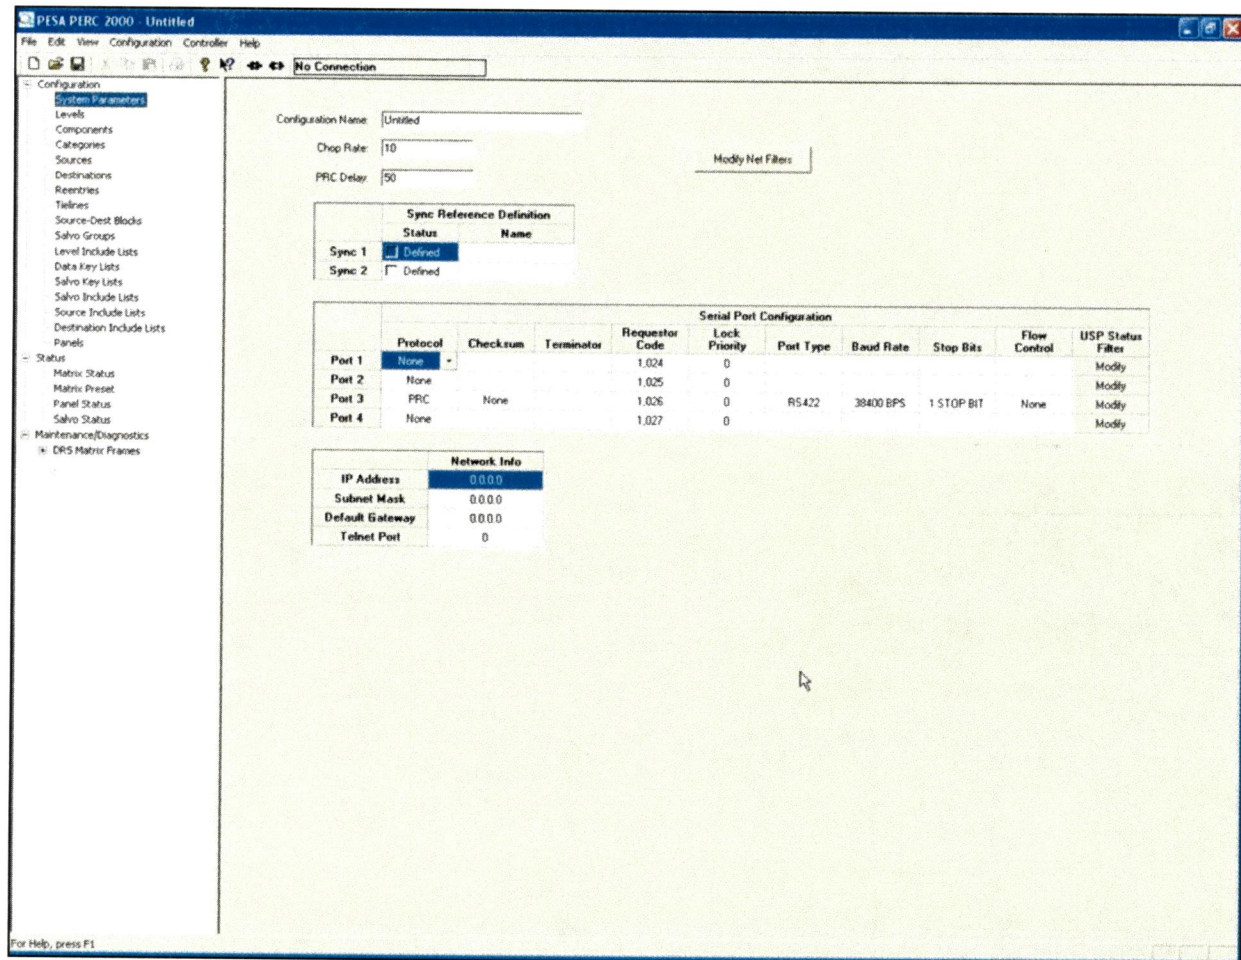

Figure 3. P2K GUI Home Screen
- ☐ 8. Open the folder labeled P2K GUI and double click on the file PERC2000.exe to launch the new P2K GUI application. You will use this new GUI application to complete all steps of this procedure. The new GUI home screen is shown in Figure 3.